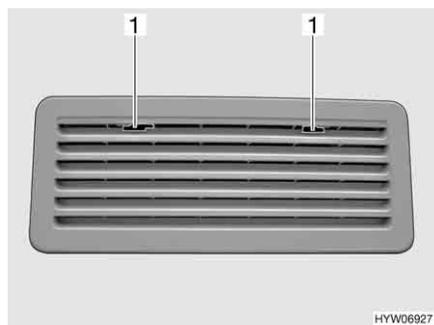

Fig. 150 Refrigerator ventilation grill
- Move the locking device (Fig. 150,1) to the middle.